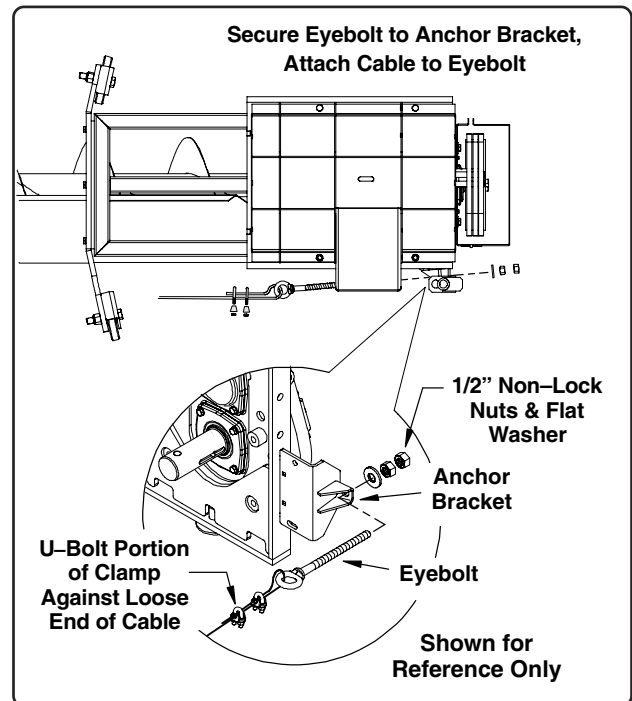

Fig. 15
2. Route the cable through the small hole at the rear of the truss stand to the cable anchor bracket on the side of the gearbox frame (See Fig. 15).
3. Attach the 5/8" x 11" eyebolt to the cable anchor bracket on the side of the gearbox frame (part of the drive assembly in center well). Secure the eyebolt using one flat washer and two non-lock nuts (See Fig. 15).